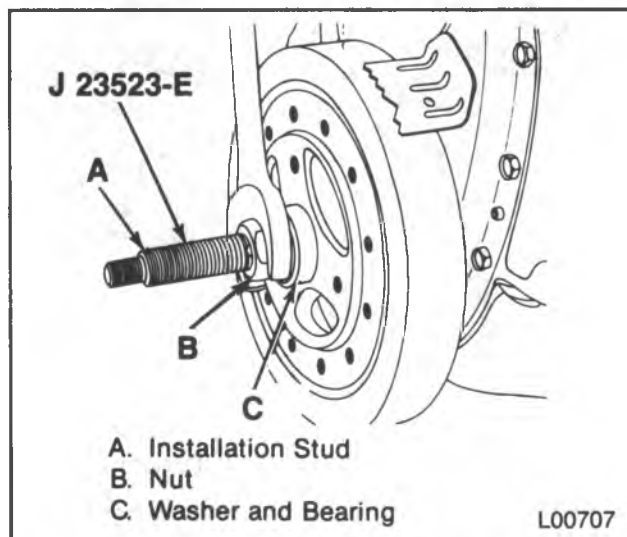

Figure 18 — Installing the Torsional Damper
3. J 23523-E stud (item A, figure 18) to the crankshaft. Thread the stud fully into the tapped hole in the crankshaft.
5. J 23523-E bearing, washer and nut (figure 18).